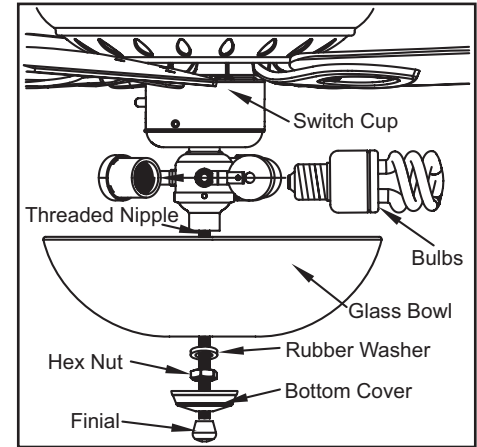

Figure 17
5. With power off, screw the CFL bulbs (Max. 14W, provided) into the light socket (Figure 17).
6. Place the glass bowl over the threaded nipple (Figure 17).
7. Place the rubber washer over the threaded nipple and then the hex nut. Firmly tighten the hex nut to hold the glass bowl in place (Figure 17).
8. Place the bottom cover on the threaded nipple and then tighten the finial securely (Figure 17).